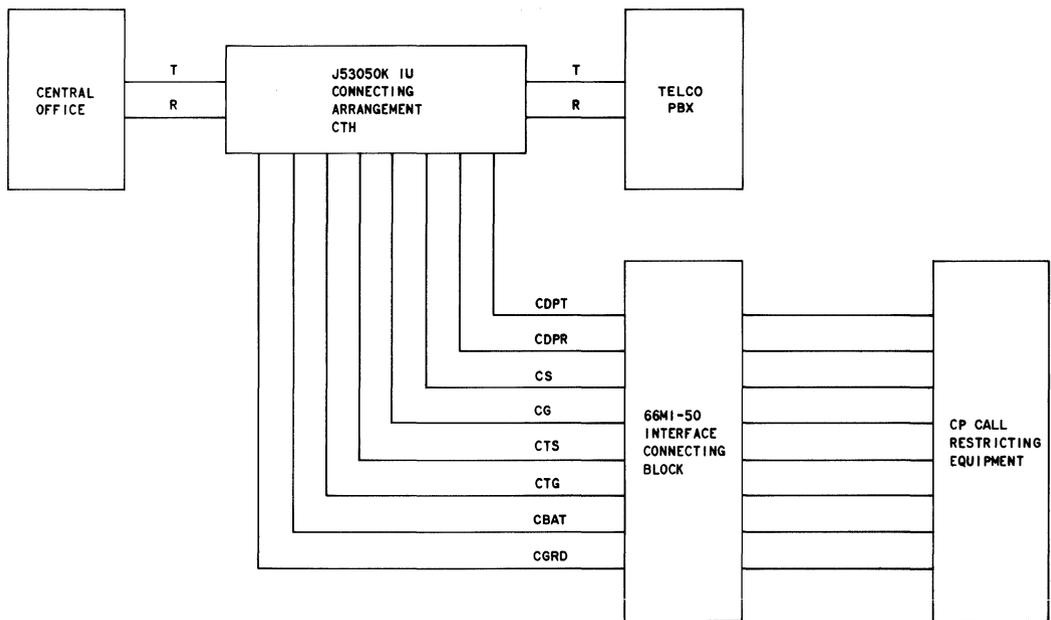

Fig. 3—Block Diagram—Connecting Arrangement CTH
**3.04** Add straps as shown in Table A to provide circuit options required. Refer to Table B for relay disconnect timing options to match the PBX in use and strap the terminals shown. Refer to Fig. 3 and 4 for wiring connections.